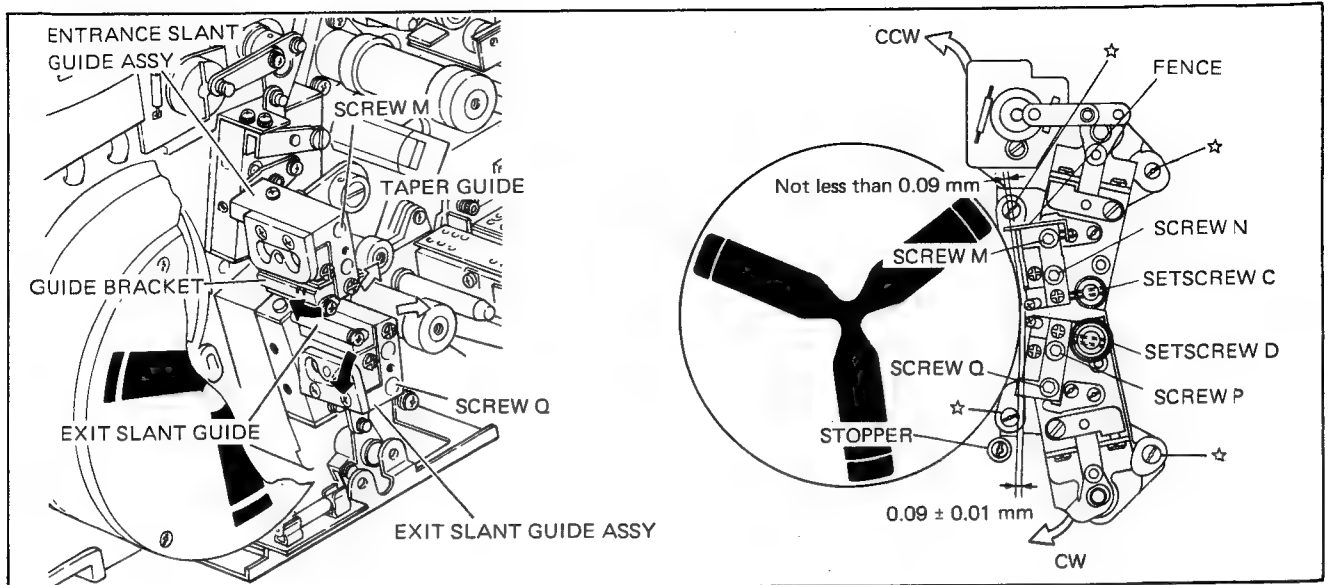

Fig. 10-26. Overlap Adjustment
- 1. When the overlap B is less than the specified value (see Fig. 10-26).